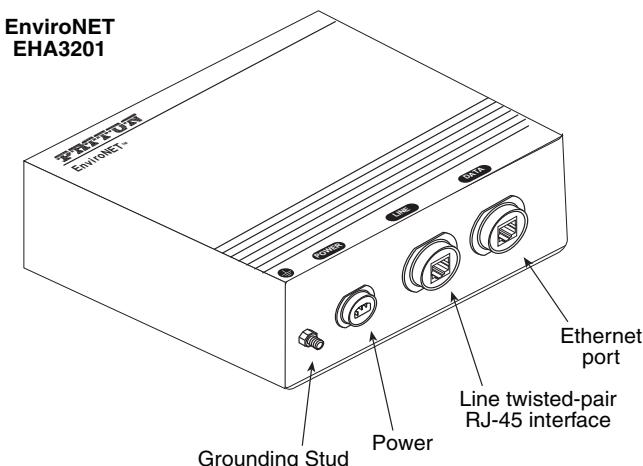

Figure 1. EHA3201 Bottom Panel
- Note** See figure 1 for the EHA3201 unit's bottom panel arrangements.
2. Install the grounding wire between the grounding stud (see Figure 1 on page 3) and the grounding source.